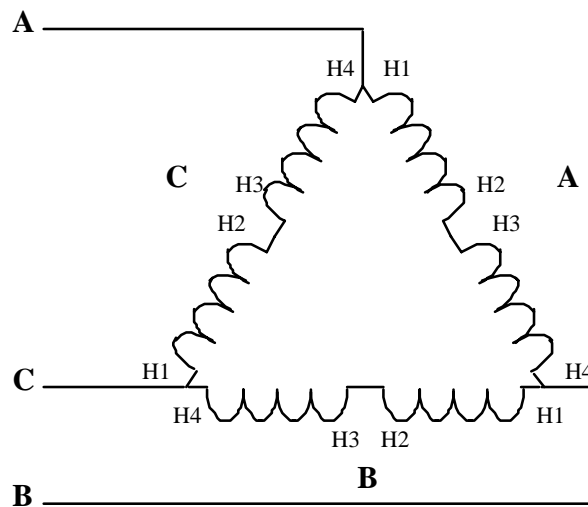

Figure 1
- a. Connect the primary windings into a delta as shown in Figure 1 below. After checking with the professor or TA to make sure the circuit is properly connected, increase the voltage to its rated value. Measure the voltage magnitudes for each of the secondary windings. Remember that the secondary voltages are from X1-X4 since all secondary windings should have a